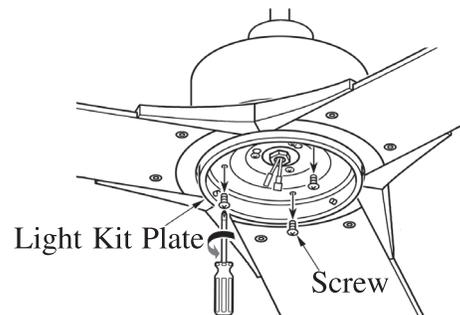

FIG.19
3. Remove 1 of 3 screws on light kit plate, and loosen the other 2 screws.(See fig.19)